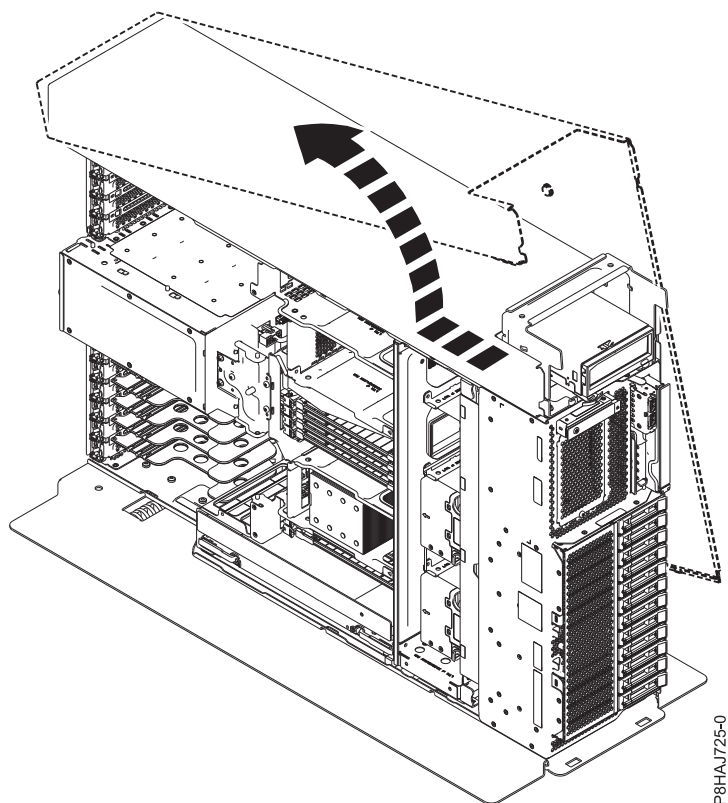

Figure 30. Removing the 8286-41A side cover
5. Slide the side cover off of the system in the direction that is shown in Figure 30 on page 46.